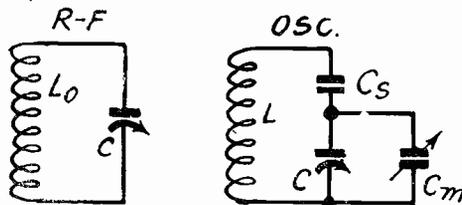

FIG. 1
While the simple instrument depicted in Fig. 1 is not exactly a tangent galvanometer its construction is similar, and it can be used for detecting minute direct currents. It is also so simple that any one can make it without trouble and at very little cost. The large circle is of wood with a groove for wires on the outside. Its diameter is one foot. The simplest way of getting such a form is to take an embroidery hoop and remove the felt "tire," leaving a groove just sufficient for the turns.
IN Case II the condensers are disposed as shown in Fig. 1.  $C_m$  is assumed to be across the variable condenser alone. It is assumed further that  $C$  is the same in both circuits at all settings. This assumption is not strictly true for several reasons. The capacity  $C$  is made up of the capacity of the coil, the capacity of the variable condenser, and the input capacity of the tube. The trimmer capacity across  $C$  is supposed to be an integral part of  $C$ . In the oscillator circuit neither the tube nor the coil capacity is directly across  $C$  because  $C_s$  is interposed between. Moreover, the capacity of the oscillator coil will in general be different from the corresponding capacity in radio frequency circuit and the tube capacities will also differ to some extent.
Formulas (3), (4), and (5) are general expressions that may be applied to any case of padding in which the condensers are arranged as in Fig. 1. In numerical computation a high degree of accuracy is necessary. This does not apply so much to  $C_m$  as it does to  $C_s$  and  $L$ .  $C_s$  in particular requires accuracy because of the fact there is a difference between two nearly equal terms in the denominator of equation (4). A small error in either term will introduce a large error in  $C_s$ , and since  $C_s$  is contained as a factor in (5), there will also be a large error in  $L$ . It has been found that the accuracy required is at least that obtainable with five-place logarithms.